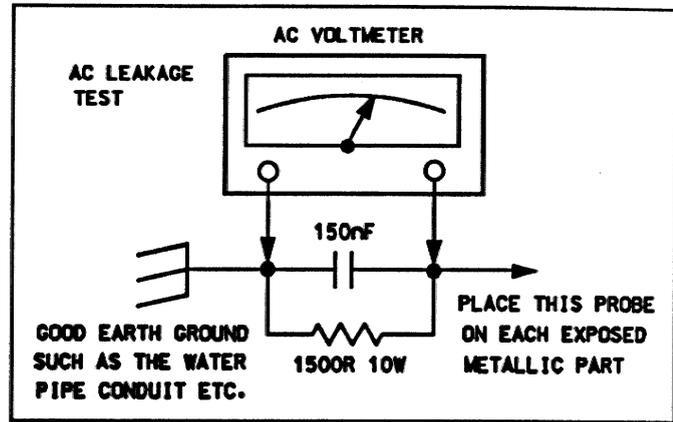

FIGURE 4-3. AC Leakage Test
b) Connect a 1500 Ω, 10 watt resistor in parallel with a 150nF AC capacitor between a known good earth ground and each exposed metallic part, one at a time. With an AC voltmeter having a minimum sensitivity of 1000 Ω/V, measure the voltage across the 1500 Ω resistor. See Figure 4-3. The rms voltage measured MUST NOT EXCEED 0.3V rms (this is equivalent to 0.5mA rms current). Values exceeding this limit are potential shock hazards. Correct immediately!